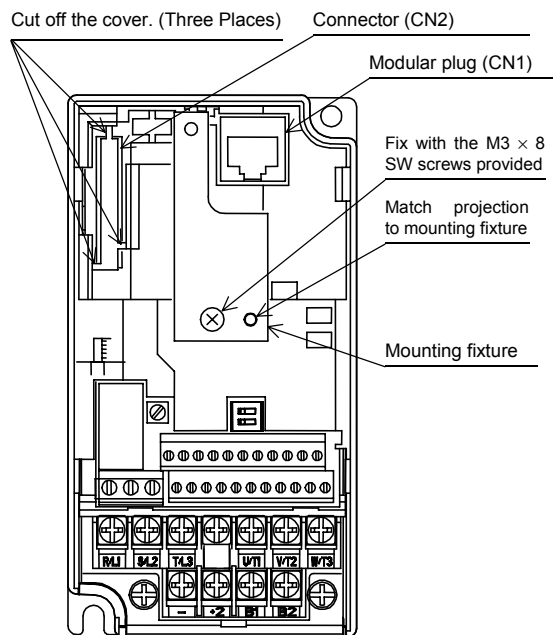

Fig. 1 Front of Inverter
2. See Fig.1 for the three places where you should cut off the cover of the inverter CN2 connector. Use nippers to cut it off. Be careful so that the shavings do not fall into the inverter unit. Should they fall in, be sure to remove them.
3. Fix the mounting fixture as shown in Fig.1.